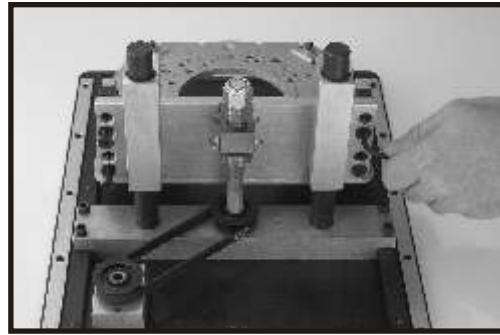

FIG. 1
1. Remove the carriage plate (Fig. 1). Using the 5/32 hex key supplied, remove the four 1/4-20 x 1" flat head cap screws (Item #16 from the parts diagram on pages 7 & 8) and remove the aluminum carriage plate.